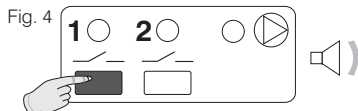

Fig. 4
- Hold down the **1/—** (ou **2/—**) **key** until there is a brief audible signal, then let go: the control is activated and the corresponding **LED** is steady on (fig.4). Also the pump (or burner) command is activated.